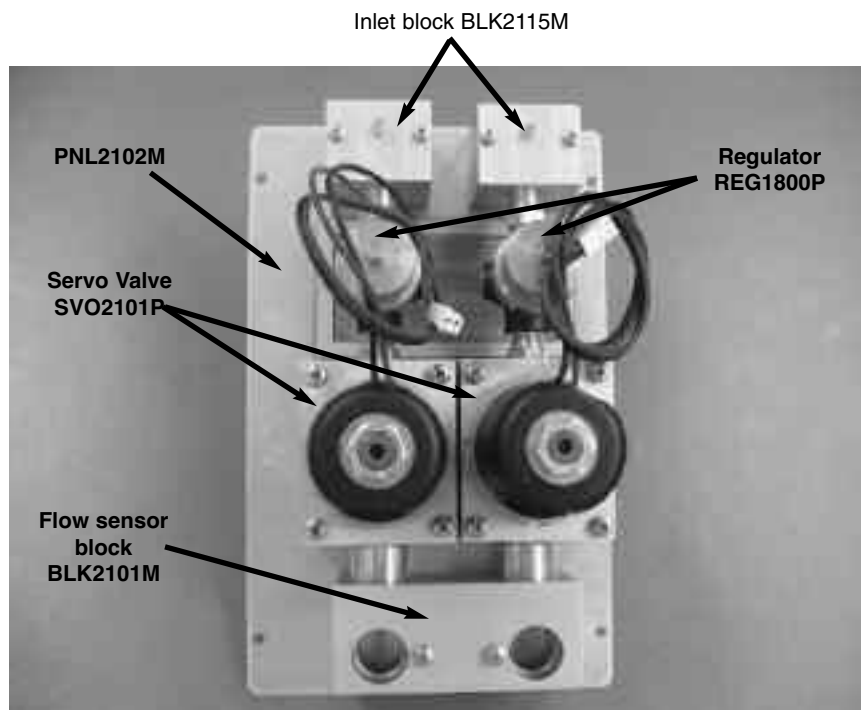

Figure 4-14 Pneumatics Panel Assembly SVO2101A
Refer to figure 4-14 and follow these steps:
- 2 Remove the yellow tubing from the Air Inlet Block BLK2115M, and remove the blue tubing from the Oxygen Inlet Block BLK2115M. Refer to Fig 4-14.